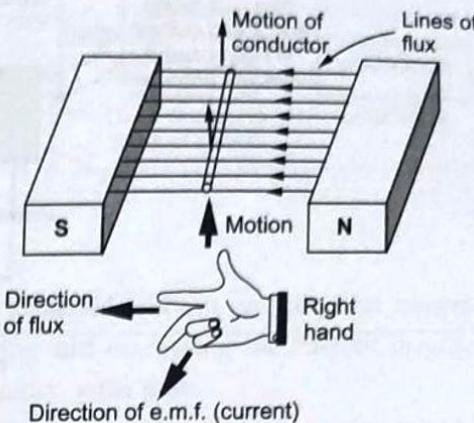

Fig. 1.21.3 (a)
- Consider the conductor moving in a magnetic field as shown in the Fig. 1.21.3 (a).